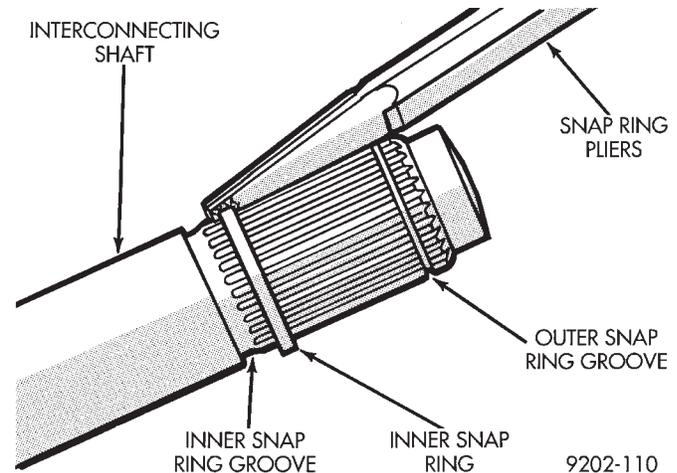

Fig. 7 Removing Inner Tripod Retaining Snap Ring (G.K.N.)
(3) Remove the inner tripod assembly to interconnecting shaft, retaining snap ring from the of interconnecting shaft (Fig. 7).